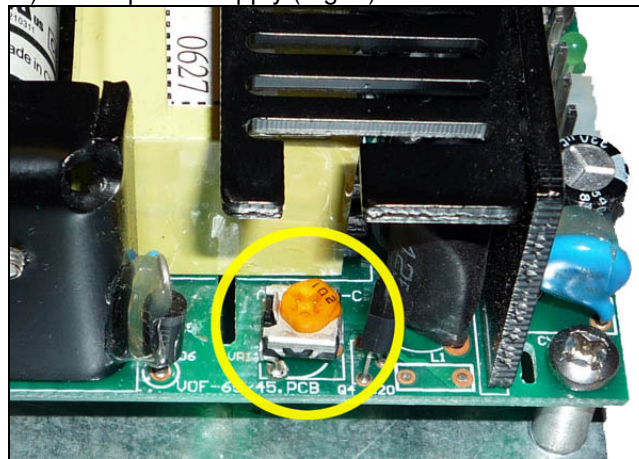

Fig. 6
1. Locate the potentiometer (pot) on the power supply (Fig. 6).